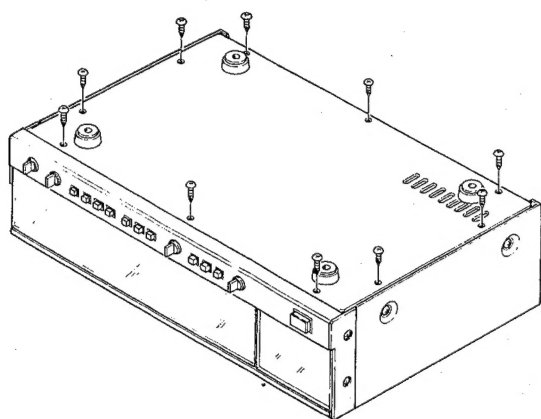

Fig. 5
I. How to Remove the Bottom Cover (Fig. 5)
- (1) Remove ten (10) screws fastened to the bottom cover. (Three screws on the front panel are 3x8 (galvanized), and the other seven are 3x6 (black).)